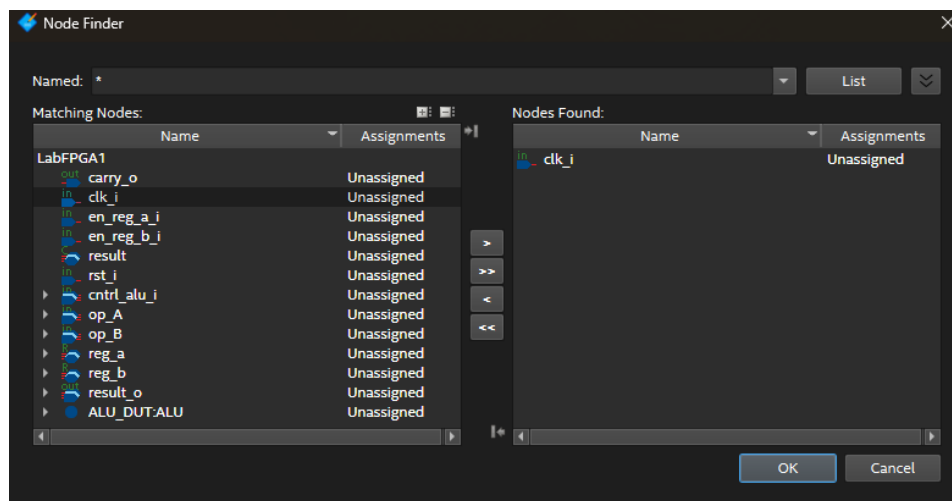

Figure 11. Node Finder
23. In the Node Finder window, **click List** to load all available design nodes. Select the input **clk_i**, move it to the selected nodes list, as shown in Figure 11, and **click OK**. The signal will now appear in the cell.